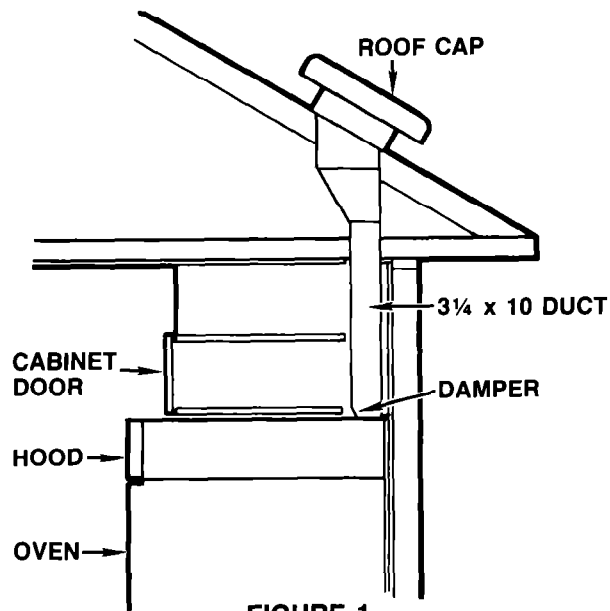
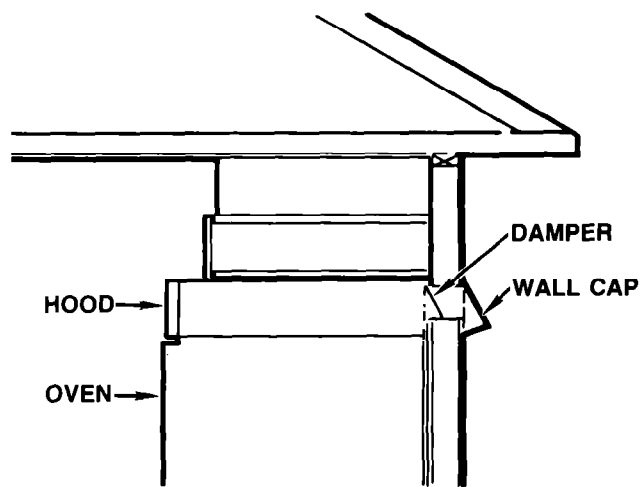
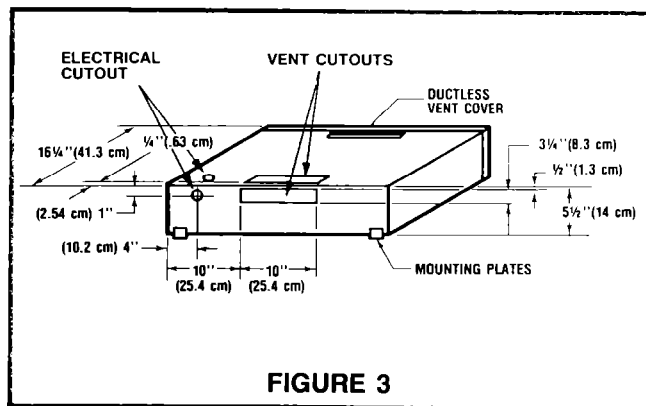

FIGURE 1
FIGURE 2
FIGURE 3
Figure 1 shows the standard through the roof venting. Figure 2 illustrates horizontal venting. Make wiring wall cutouts and venting cutouts according to dimensions given in Figure 3.
2. Location for vent opening can be found by measuring locations given in Figure 3 or by removing appropriate venting knockout and simply holding hood shell into position and marking the appropriate location for vent opening.
4. Attach damper to hood to give required venting. If damper is attached to the back of hood, be sure damper hinge is toward the top. See Figure 1 and 2.
6. Loosen screws holding two mounting plates on back of hood, see Fig. 3. Rotate plates until extra holes in plates line up with holes in range back. Remove screws in range back and secure hood through plates using these same two screws.
1. Remove ductless vent cover shown in Figure 3.